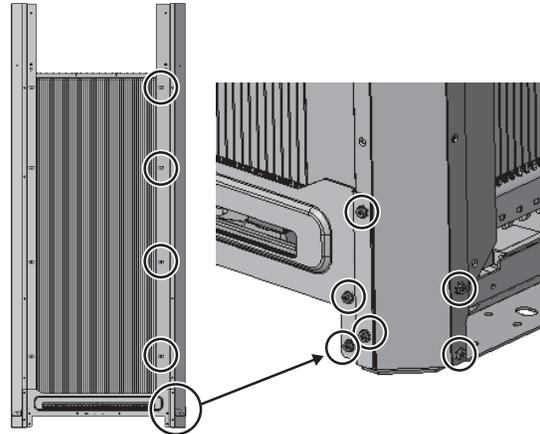
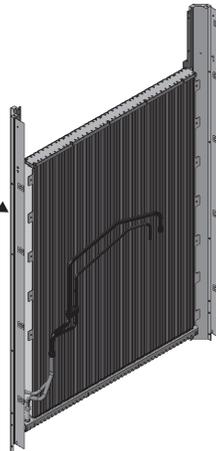

Fig. 56 Right
Fig. 57 Rear heat exchanger unit drawing
(4) Remove the screws that secure the rear and right pillars. (10 screws: Fig. 56 and Fig. 57)